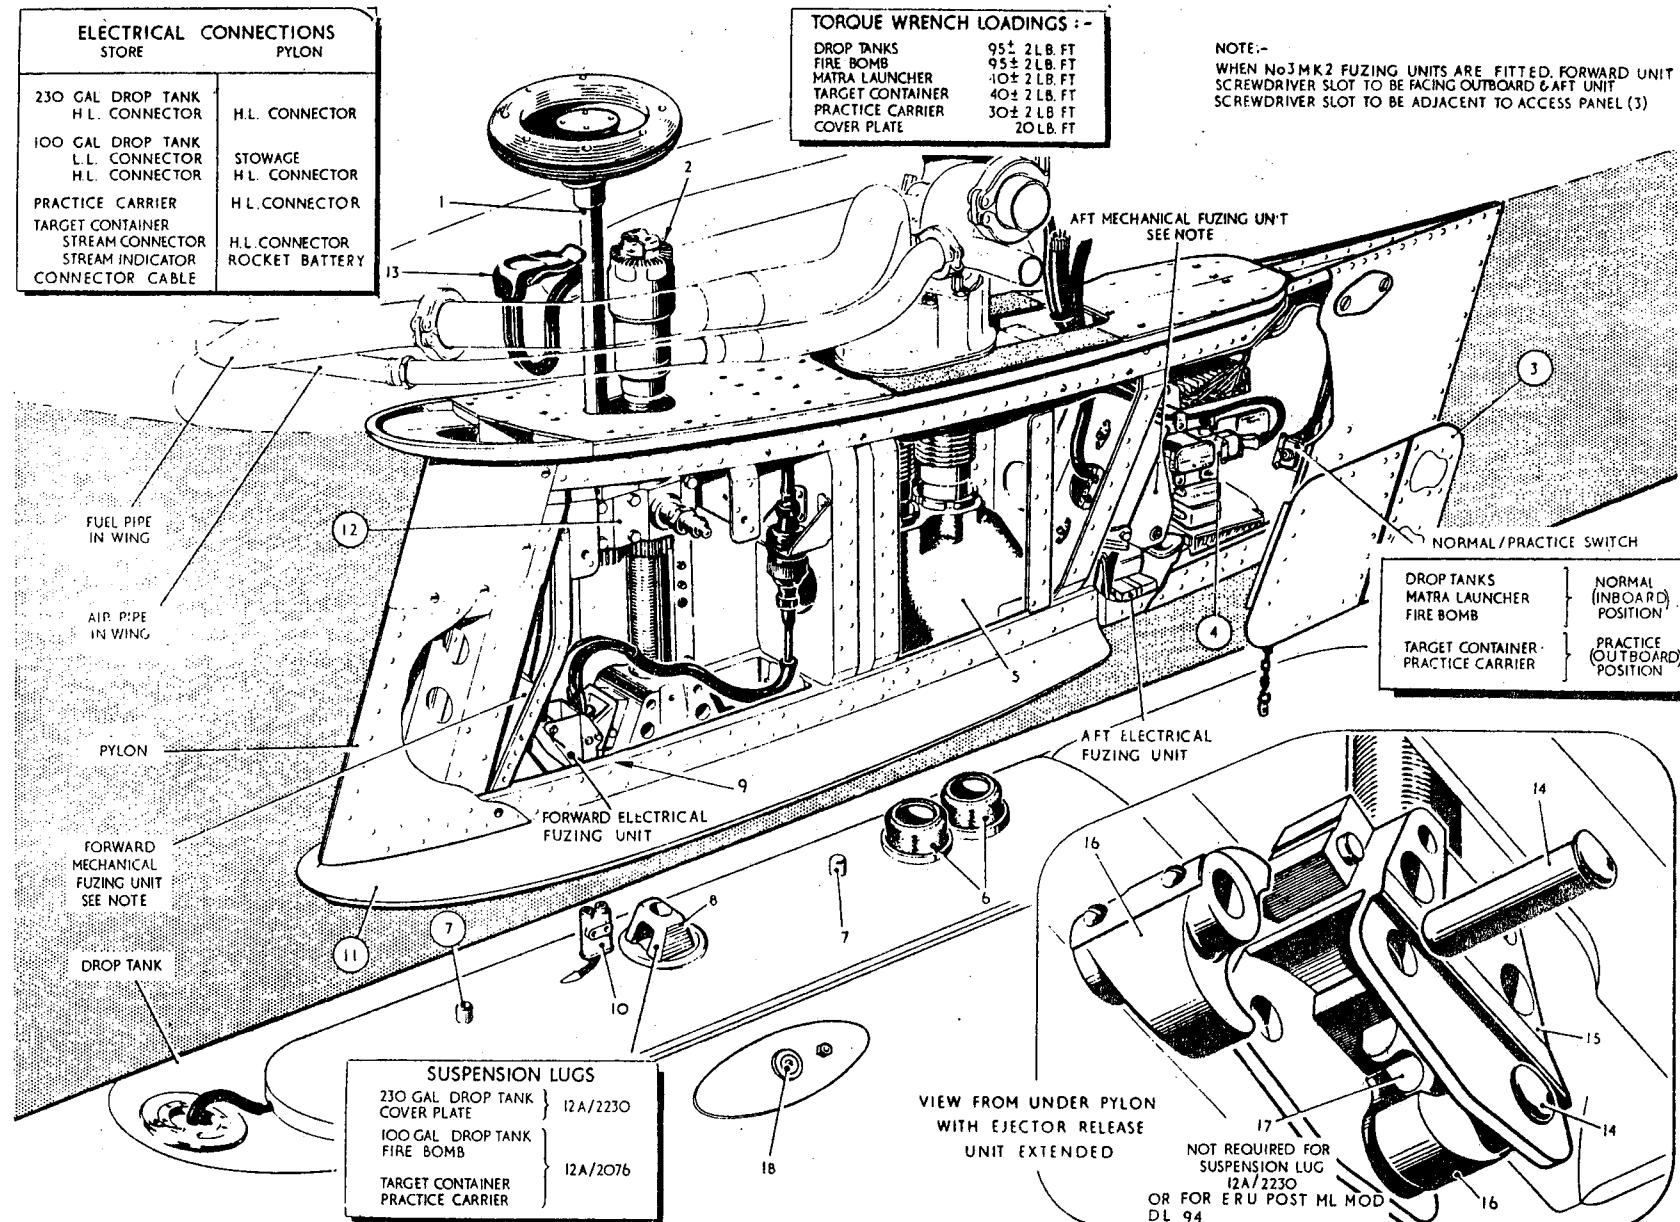

Fig.4 Loading of stores on inboard pylon
**Fitting and removal of inboard drop tanks (Fig. 4)****WARNING**